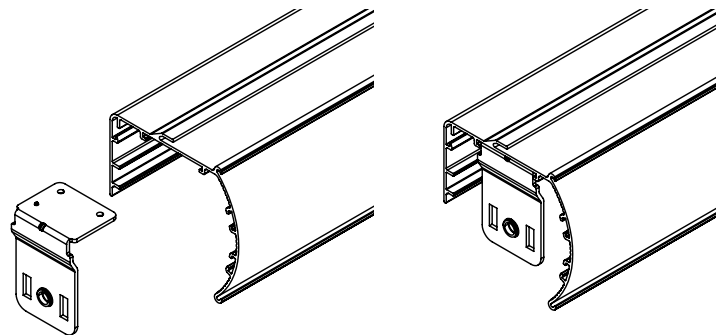

Figure 9. Cassette Brackets
Step 8. Insert a cassette bracket into the cassette as shown in **Figure 9**. Tap into place with a hammer until the bracket is even with the end of the cassette. Repeat for the other end.